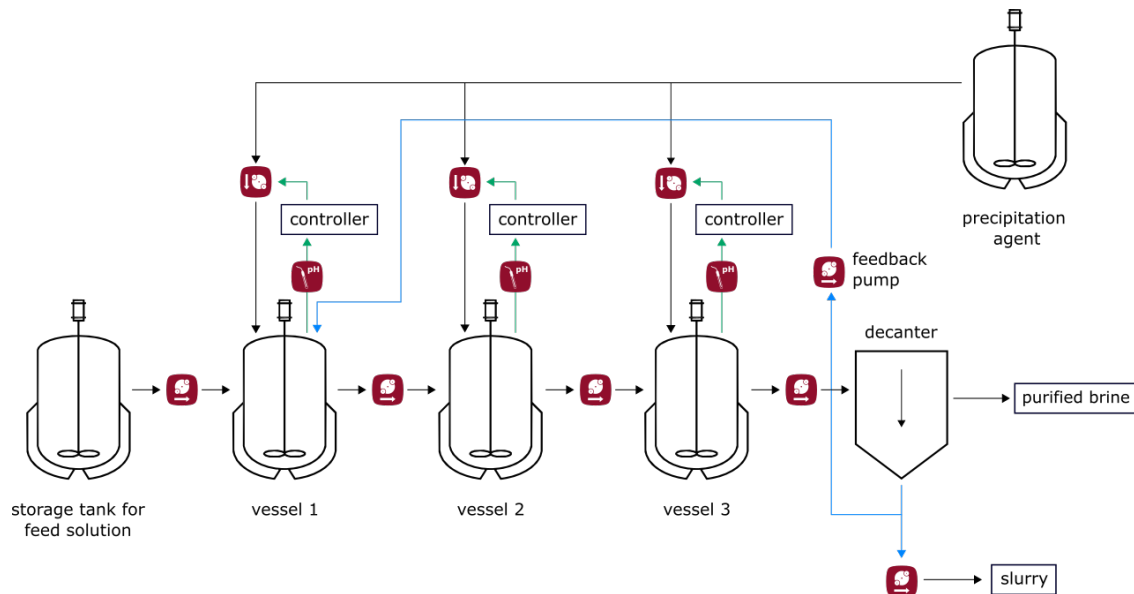

Figure 2: Process scheme of the automated setup.
The automated solution that was proposed is shown in Figure 1 and Figure 2 and involves 9 pumps (Hei-FLOW Ultimate 120, Heidolph Instruments) and 3 pH sensors (Hamilton ARC) interconnected, monitored, and controlled through the cloud-based web application of OSPIN. Each tank has two pumps and a pH sensor associated to it:
- the second pump connects the tank to a reservoir containing an alkaline solution and works together with the pH sensor to dynamically adjust the pH: the sensor continuously measures the pH and when the pH is below the target value set by the user the software gives the pump the command to add more of the alkaline solution into the tank – this pH-pump combination is called *pH controller* (see green line in Figure 2).
Finally, a pump transfers the remaining solution from tank 3 into the product container, where the slurry (solids formed during the process) is then pumped out. During the development process the engineering team was asked to add an extra pump in order to pump part of the slurry back to the first tank (see blue line in Figure 2), as this accelerates the whole process: thanks to the flexibility of HEI-PROCESS this request could be accommodated in no time. As in the manual process, every tank is equipped with a stirred mixing the solution.